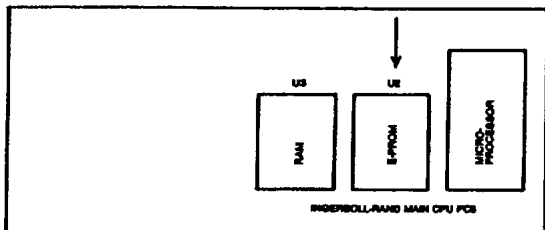

FIGURE 1
1. Locate the area inside the starter box where the **Sequencer Interface I** (P/N39813274) is to be mounted (see figure 1). Align the left hand side of the **Sequencer Interface I** approximately 3 inches from the left side of the starter box and center front to back on the starter box shelf. Mark the mounting holes. Drill #25 diameter pilot holes for the #10-32 self-tapping screws. Attach the **Sequencer Interface I** with the screws provided in the kit.